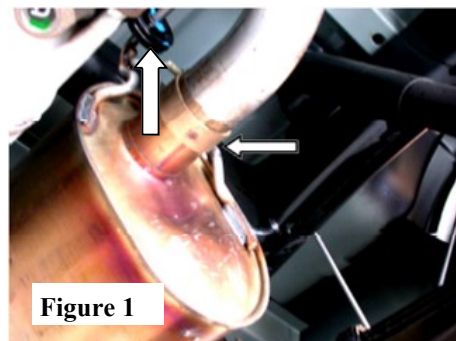

Figure 1
1. Unbolt the clamp located behind the rear muffler assembly. (See Fig.1)